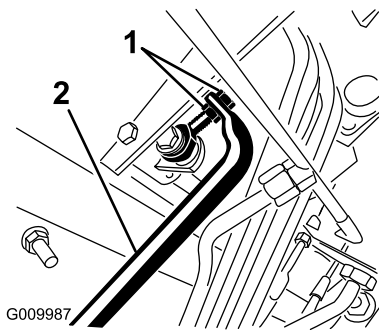

Figure 46
5. Adjust the jam nuts on the pump rod end to move the pump control tube forward to eliminate forward creep or rearward to eliminate rearward creep (Figure 46).